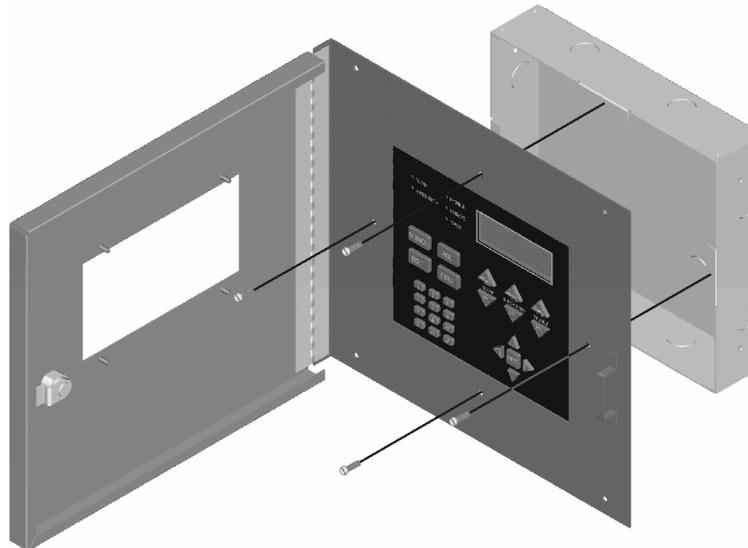

Figure 4-19 Attaching Annunciator/Door Assembly to Backbox
4. Attach the annunciator and door assembly to back box as shown in Figure 4-19 using the supplied screws.